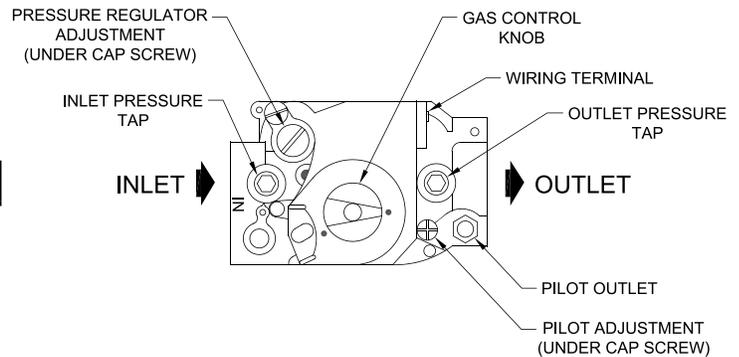

Figure 12-2: Top View of Gas Valve
- A. Connect a manometer to the inlet pressure tap on the gas valve (see Figure 12-2).
- D. Connect a manometer to the manifold (outlet) pressure tap on the gas valve (Figure 12-2).
- F. If a manifold pressure adjustment is needed, make the adjustment by turning the regulator screw (see Figure 12-2) clockwise to raise the pressure and counter-clockwise to reduce the pressure. If a manifold pressure adjustment is made, recheck the inlet pressure after making the adjustment to be certain that it is still within acceptable limits. Replace the cover screw on the regulator.